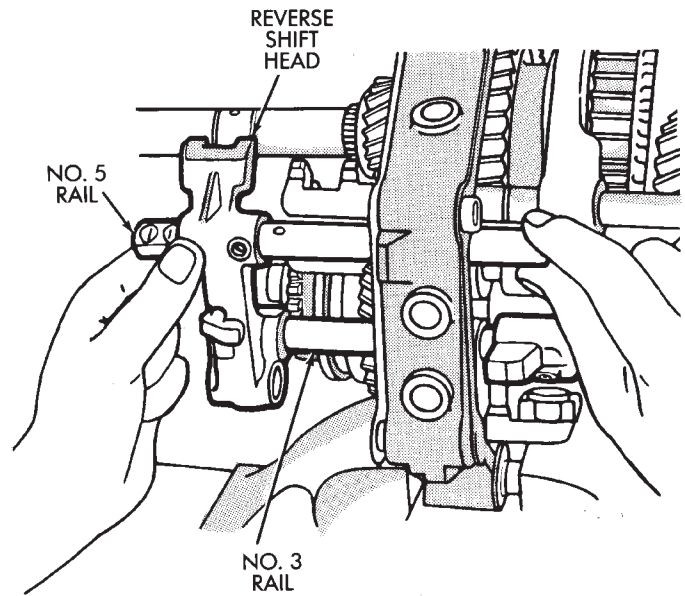

Fig. 84 Installing Reverse Shift Head
(12) Assemble reverse shift head and No. 5 shift rail.
(13) Install No. 5 shift rail in intermediate plate and engage shift head on No. 3 shift rail (Fig. 84).